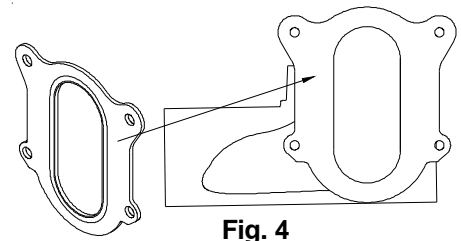

Fig. 4
4. Place faceplate gaskets from trim kits on fittings. Align the gasket holes with the tapped holes in the fitting. See Fig. 4